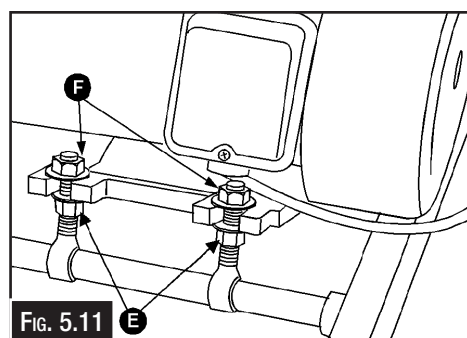

FIG. 5.11
2. Loosen the lower nut on the motor adjustment screw. (Fig 5.11).
3. Turn the top nut to lower the motor plate and increase belt tension. (Fig 5.11).
5. Tighten the lower nut to lock in place. (Fig. 5.11).